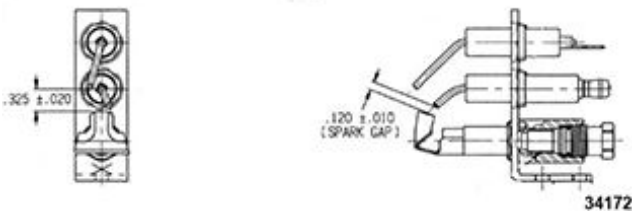

Fig. 62
- Spark gap between electrode and pilot burner head should be 0.120 in. +/- 0.010 in (Fig. 62).